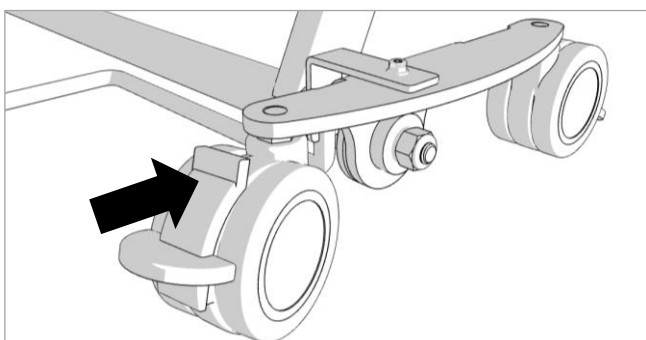

Figure 13.2
2. To release the brake, press or kick the upper part of the brake lever as indicated in Figure 13.2 until the lever disengages.